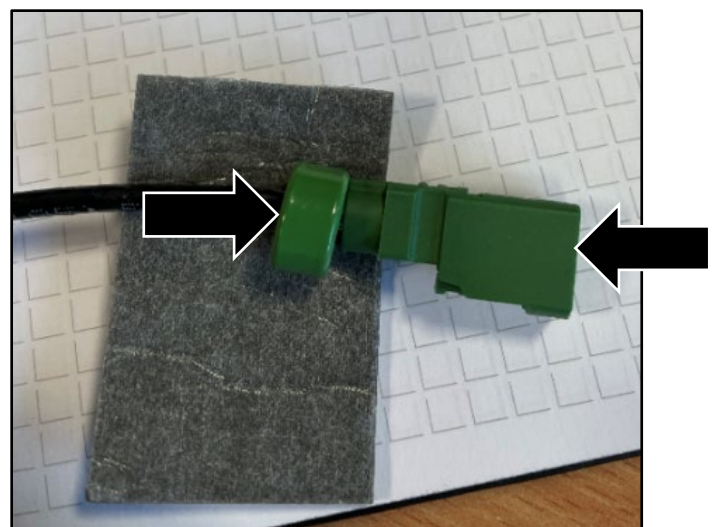

Figure 6
8. Install the ferrite to the cable for the display screen (refer to Figure 6).
9. Install the connector housing (refer to Figure 6).